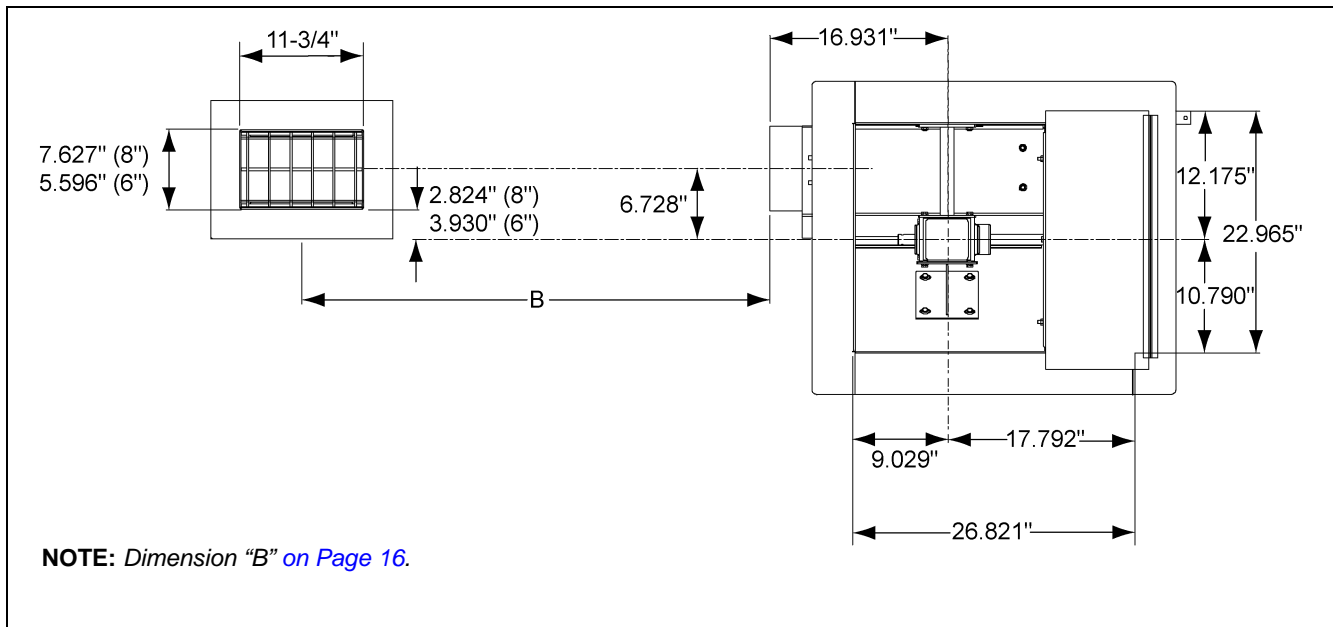
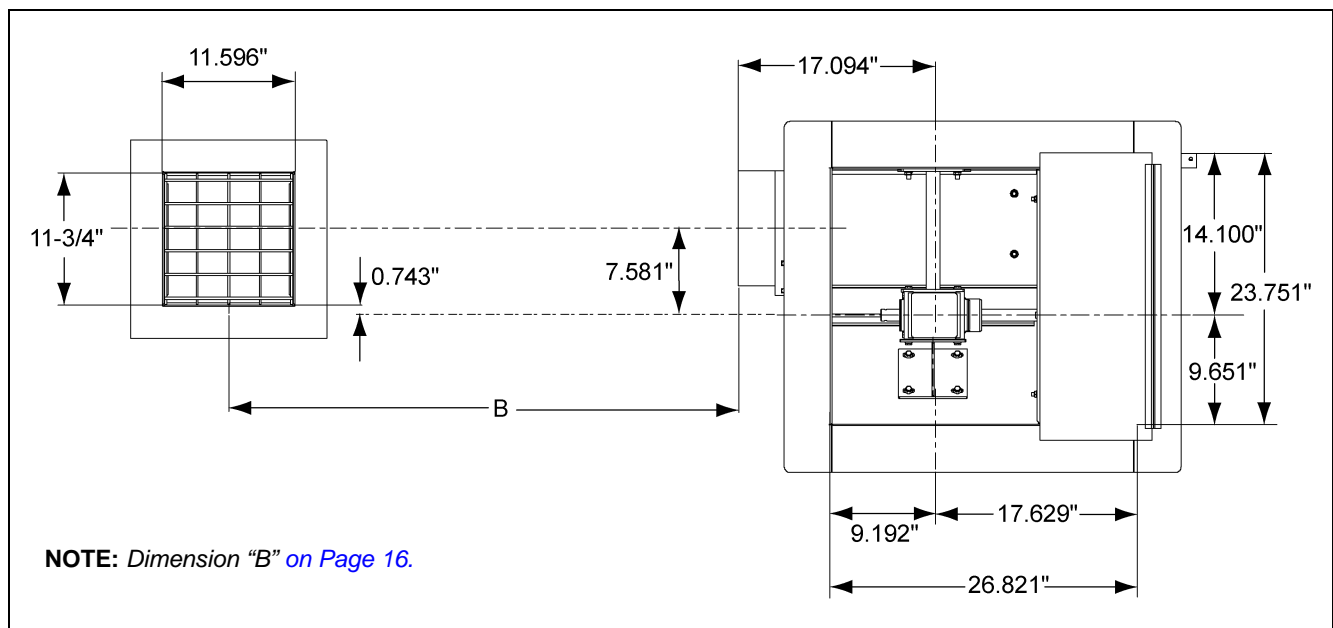
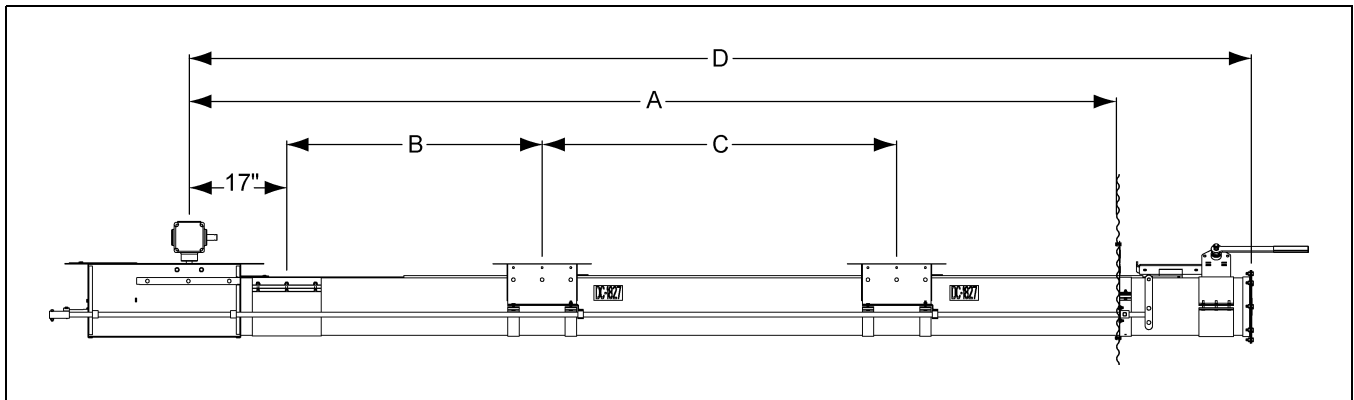

Figure 4B 6" and 8" (15.24 cm 20.32 cm) Center and Intermediate Well(s) Bin Floor Cut-outs
Figure 4C 10" (25.40 cm) Center and Intermediate Well(s) Bin Floor Cut-outs
Figure 4D
1. Locate the center of the bin and make a cut-out in the bin floor for the center well. *See Figure 4B* for cut-out size and location of 6" and 8" wells. *See Figure 4C* for 10" wells. Locate the vertical shaft between the gearboxes in the center of the bin. Place suitable supports under the center well to hold it in position.
1. Cut openings in the bin floor for the intermediate wells. *See Figure 4B and Figure 4C on Page 15.* The number of wells depends on bin size. The distances between intermediate wells and the center well should be equal. *See Figure 4D and Chart below.*